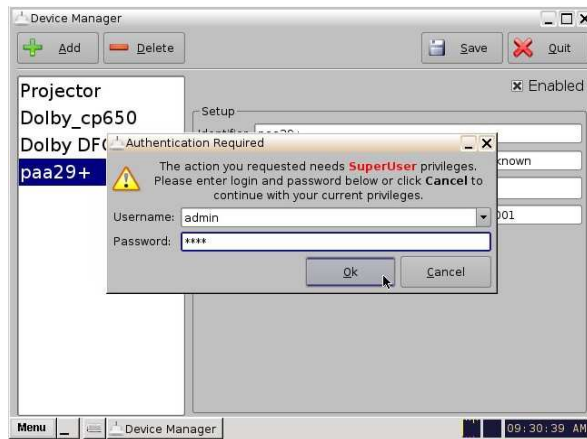

Figure 8.3.1C
11. If you are not logged as admin, you will need to be authenticated. **Figure 8.3.1C**.